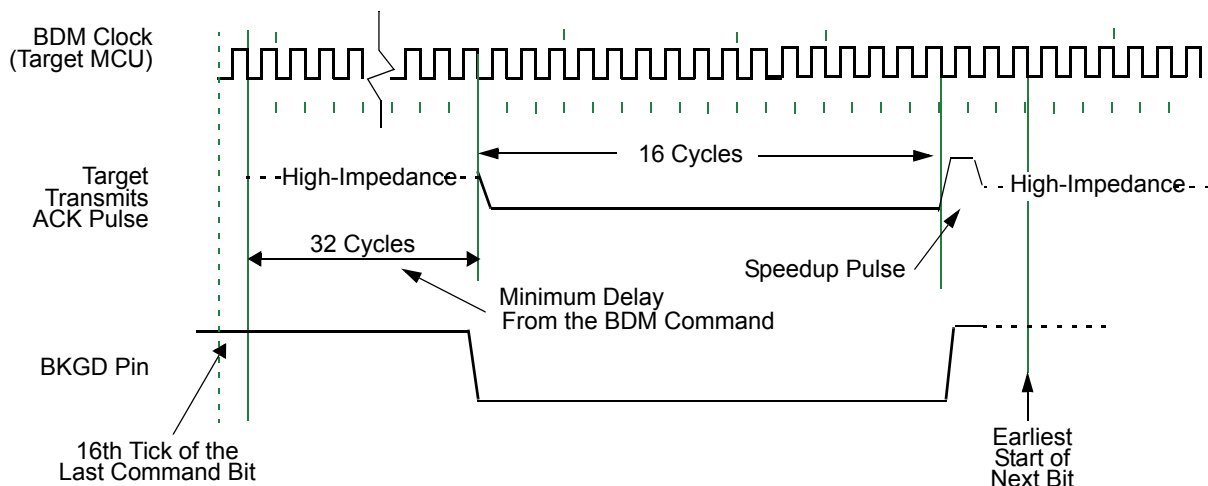

Figure 61. Target Acknowledge Pulse (ACK)
The hardware handshake protocol signals to the host controller when an issued command was successfully executed by the target. This protocol is implemented by a 16 serial clock cycle low pulse followed by a brief speedup pulse in the BKGD pin. This pulse is generated by the target MCU when a command, issued by the host, has been successfully executed (see Figure 61). This pulse is referred to as the ACK pulse. After the ACK pulse has finished: the host can start the bit retrieval if the last issued command was a read command, or start a new command if the last command was a write command or a control command (BACKGROUND, GO, GO_UNTIL(171) or TRACE1). The ACK pulse is not issued earlier than 32 serial clock cycles after the BDM command was issued. The end of the BDM command is assumed to be the 16th tick of the last bit. This minimum delay assures enough time for the host to perceive the ACK pulse. Note also that, there is no upper limit for the delay between the command and the related ACK pulse, since the command execution depends upon the CPU bus, which in some cases could be very slow due to long accesses taking place. This protocol allows a great flexibility for the POD designers, since it does not rely on any accurate time measurement or short response time to any event in the serial communication.
Differently from the normal bit transfer (where the host initiates the transmission), the serial interface ACK handshake pulse is initiated by the target MCU by issuing a negative edge on the BKGD pin. The hardware handshake protocol in Figure 61 specifies the timing when the BKGD pin is being driven, so the host should follow this timing constraint in order to avoid the risk of an electrical conflict on the BKGD pin.